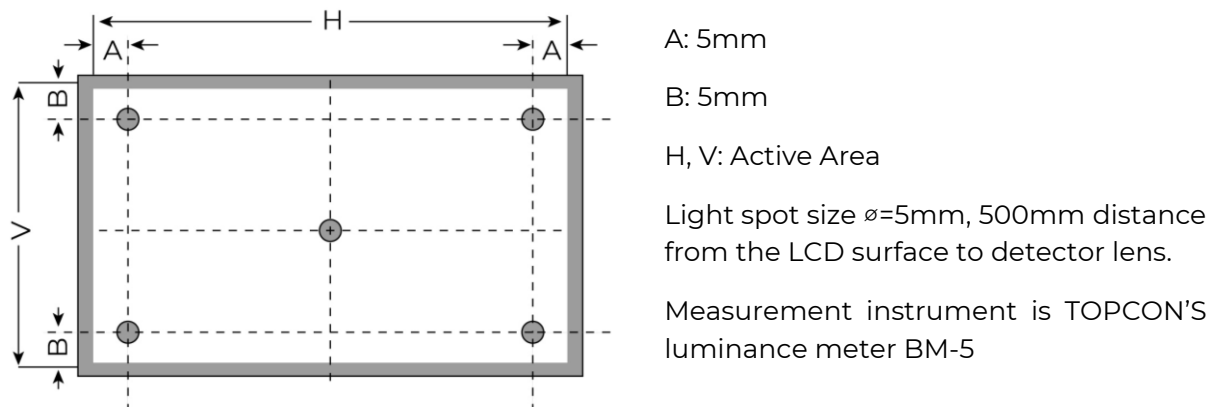

Figure 2. Measuring method for Contrast ratio, surface luminance, Luminance uniformity, CIE (x, y) chromaticity
Note 1. Contrast Ratio (CR) is defined mathematically as below, for more information see Figure 2.
Note 2. Surface luminance is the LCD surface from the surface with all pixels displaying white. For more information see Figure 2.
Note 3. The uniformity in surface luminance δ WHITE is determined by measuring luminance at each test position 1 through 5, and then dividing the minimum luminance of 5 points luminance by maximum luminance of 5 points luminance. For more information see Figure 2.